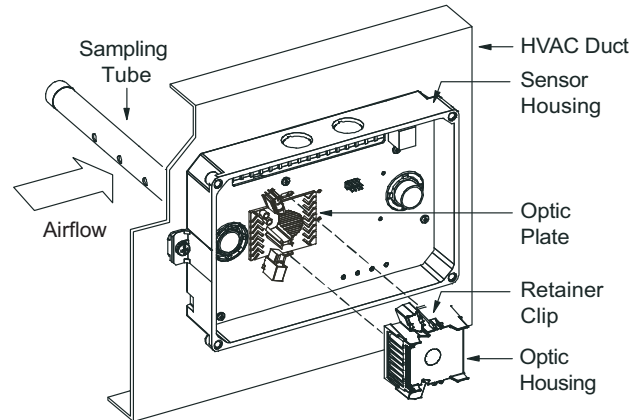

Fig. 55 — Sensor Cleaning Diagram
1. Disconnect power from the duct detector then remove the sensor's cover. See Fig. 55.